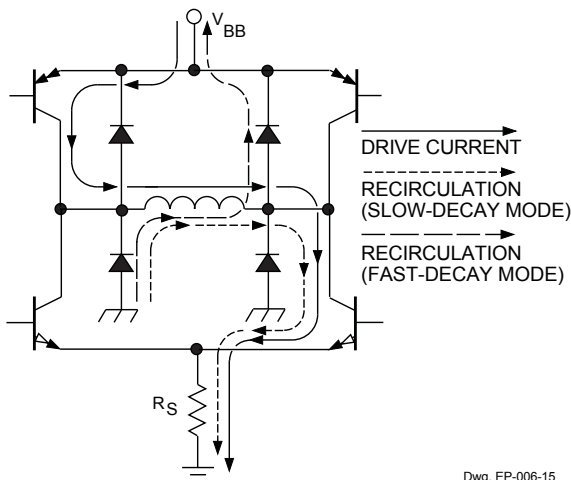
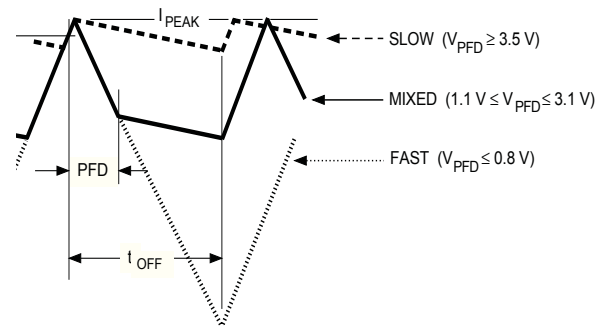

Figure 1 — Load-Current Paths
Figure 2 — Current-Decay Waveforms
**Internal PWM Current Control.** Each motor driver contains an internal fixed off-time PWM current-control circuit that limits the load current to a desired value ( $I_{TRIP}$ ). Initially, a diagonal pair of source and sink transistors are enabled and current flows through the motor winding and  $R_S$  (figure 1). When the voltage across the sense resistor equals the DAC output voltage the current-sense comparator resets the PWM latch,
**Slow Current-Decay Mode.** When  $V_{PFD} \geq 3.5$  V, the device is in slow current-decay mode (the source drivers are disabled when the load current reaches  $I_{TRIP}$ ). During the fixed off-time, the load inductance causes the current to recirculate through the motor winding, sink driver, ground clamp diode, and sense resistor (see figure 1). Slow-decay mode produces low ripple current for a given fixed off-time (see figure 2). Low ripple current is desirable because the average current in the motor winding is more nearly equal to the desired
**Fast Current-Decay Mode.** When  $V_{PFD} > 0.8$  V, the device is in fast current-decay mode (both the sink and source drivers are disabled when the load current reaches  $I_{TRIP}$ ). During the fixed off-time, the load inductance causes the current to flow from ground to the load supply via the motor winding, ground-clamp and flyback diodes (see figure 1). Because the full motor supply voltage is across the load during fast-decay recirculation, the rate of load current decay is rapid, producing a high ripple current for a given fixed off-time (see figure 2). This rapid rate of decay allows good current regulation to be maintained at the cost of decreased average current accuracy or increased driver and motor losses.
As in fast current-decay mode, mixed-decay starts with the sink and source drivers disabled after the load current reaches  $I_{\text{TRIP}}$ . When the voltage at the RC terminal decays to a value below  $V_{\text{PFD}}$ , the sink drivers are re-enabled, placing the device in slow current-decay mode for the remainder of the fixed off-time (figure 2). The percentage of fast decay (PFD) is user determined by  $V_{\text{PFD}}$  or two external resistors.